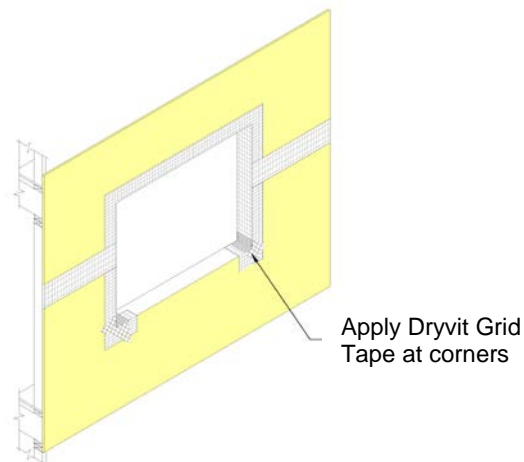

Figure 9
- 1) Apply Dryvit Grid Tape along the jambs and head of the opening as well as all sheathing joints that may intersect the opening and lap onto face of wall a minimum of 2 in (51 mm). Add additional pieces of Grid Tape at the inside corners (sill/jamb) of the opening to maintain continuity – Figure 9.